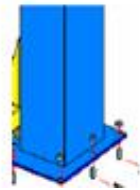

Fig 4
2. After holes have been drilled, remove thoroughly the debris and dust in them and ascertain that the posts stay upon the circle previously drawn by chalk. **(Fig 4,5,6)**